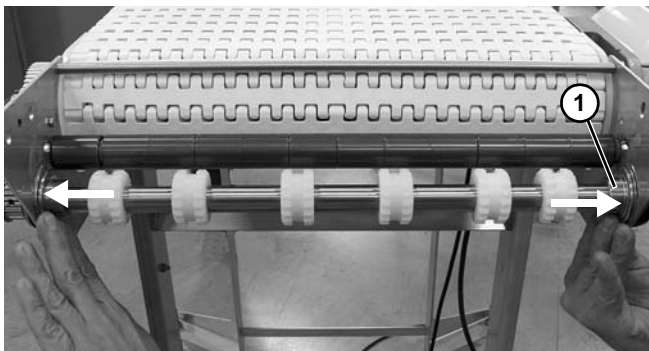

Figure 73
3. Insert drive shaft through opposite bearing (**Figure 73, item 1**) and press outward on bearings as shown.